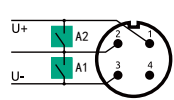

Figure 12 - Using the teach input
- To set the user range, a special input is used - the teach input (pin 2). It is necessary to alternately close the teach input (see Figure 12) and the input between the +U and -U terminals (see Figure 12).